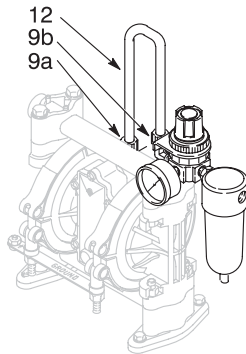

FIG. 2
2. Screw the loose air line fitting (9a) into the pump's air inlet. Rotate the fitting so the tube end faces up. Push each end of the tube (12) into one of the air line fittings. Tighten the nut on the fitting to secure the tube. (FIG. 2)